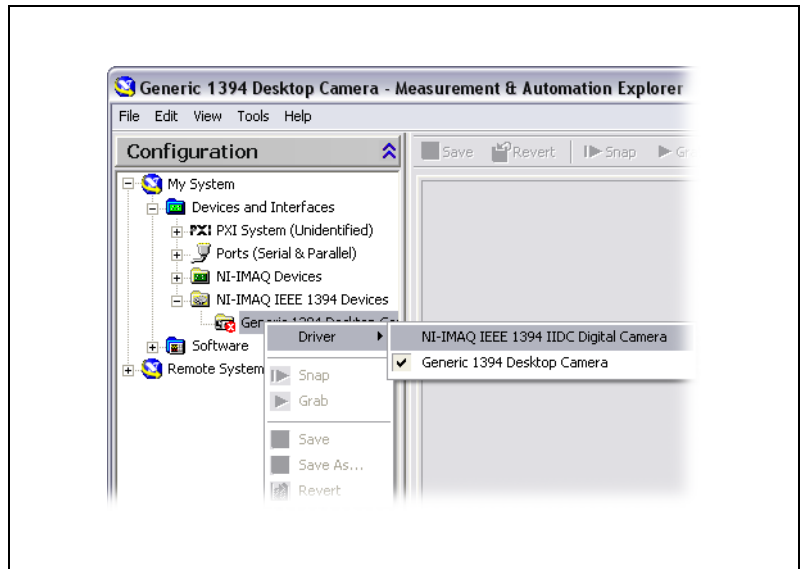

Figure 1. Switching the Camera Driver
7. If your camera does not show up as an NI-IMAQ IEEE 1394 digital camera, change the associated driver by right-clicking the camera and selecting **Driver»NI-IMAQ IEEE 1394 IIDC Digital Camera**, as shown in Figure 1.